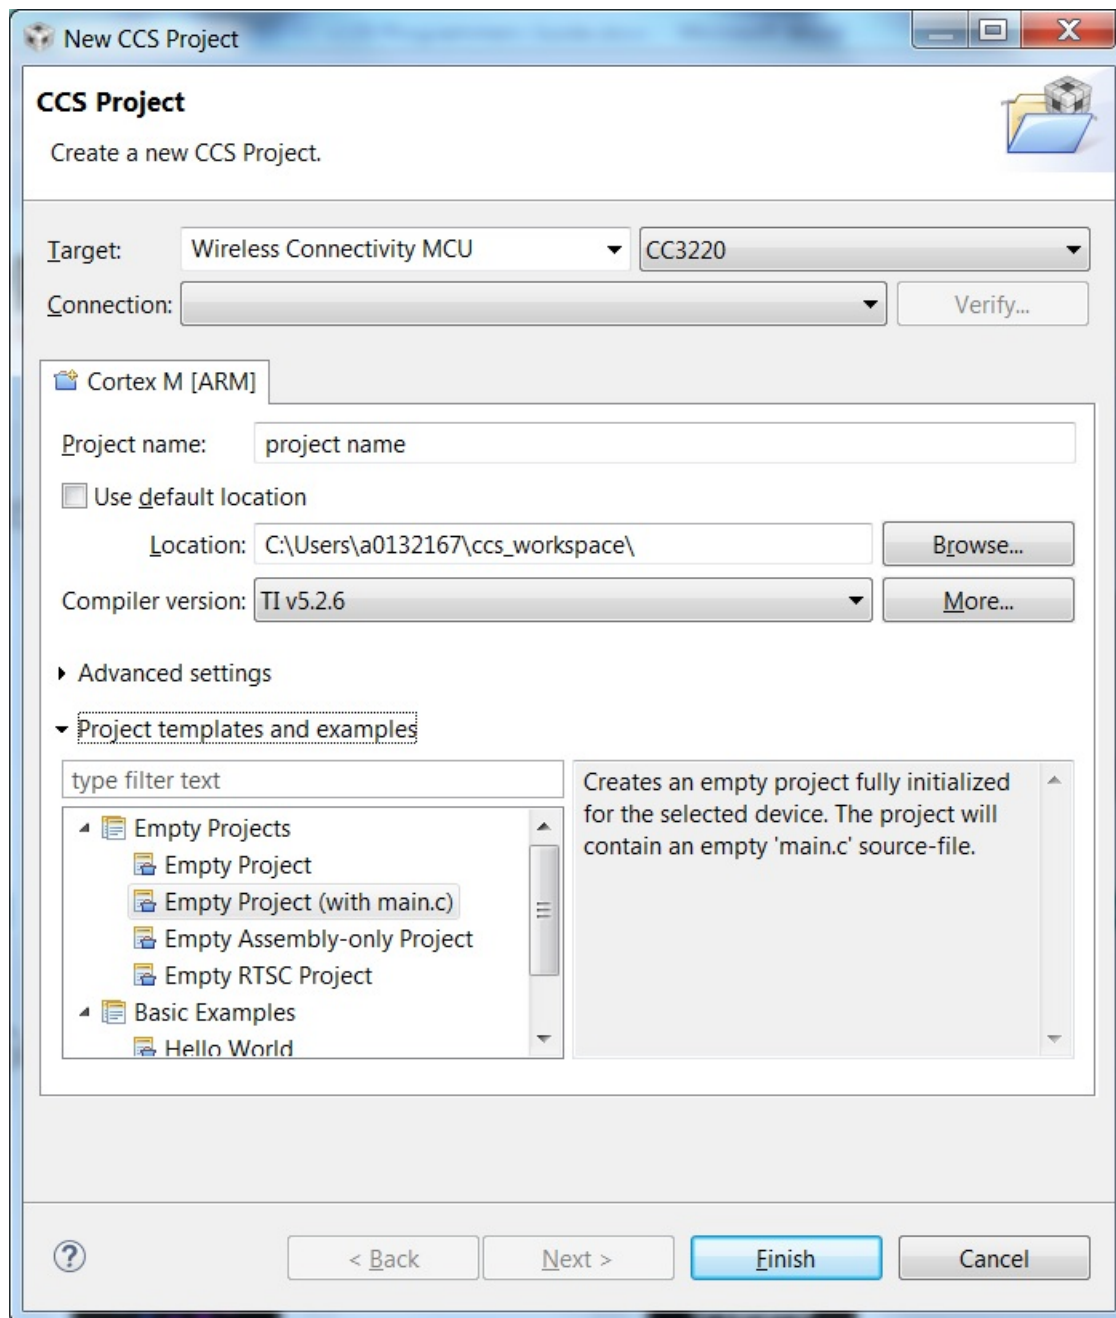

Figure 5-13. CCS Project Settings
4. Select the project template, and click *Finish*, as shown in Figure 5-13.